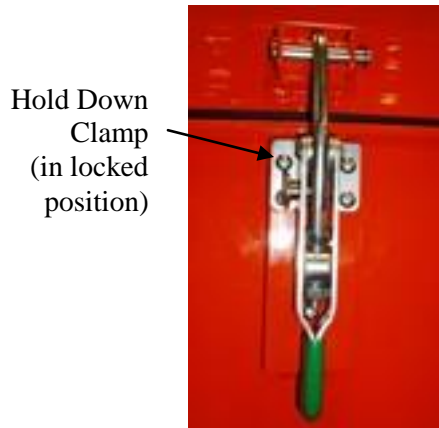

Figure 5
2. Open all dome hold down clamps. **(Figure 5)**